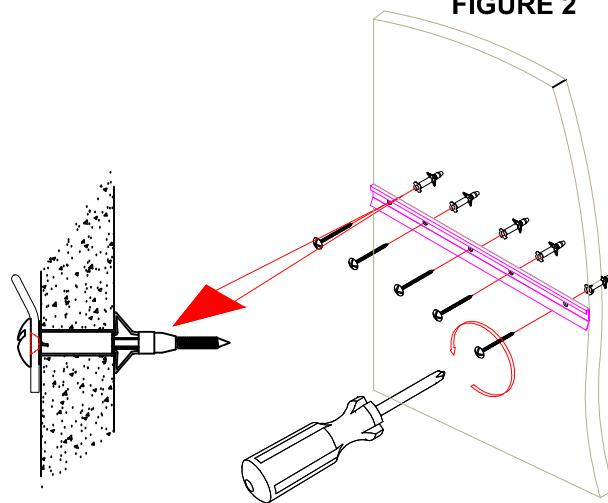

FIGURE 1B
- DRYWALL WITH STUDS: Use screws to affix to studs. See FIGURE 1B.